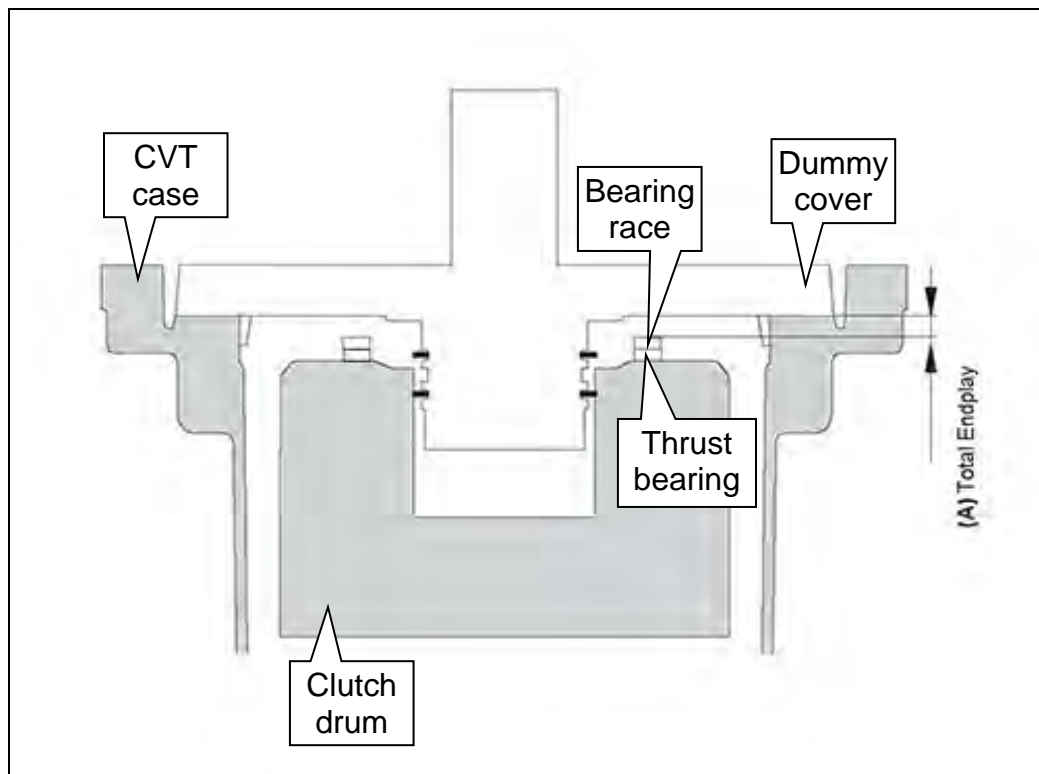

Figure 1GG
**IMPORTANT:** The clutch total endplay (Figure 1GG) must always be adjusted when a new sub-assembly is installed.